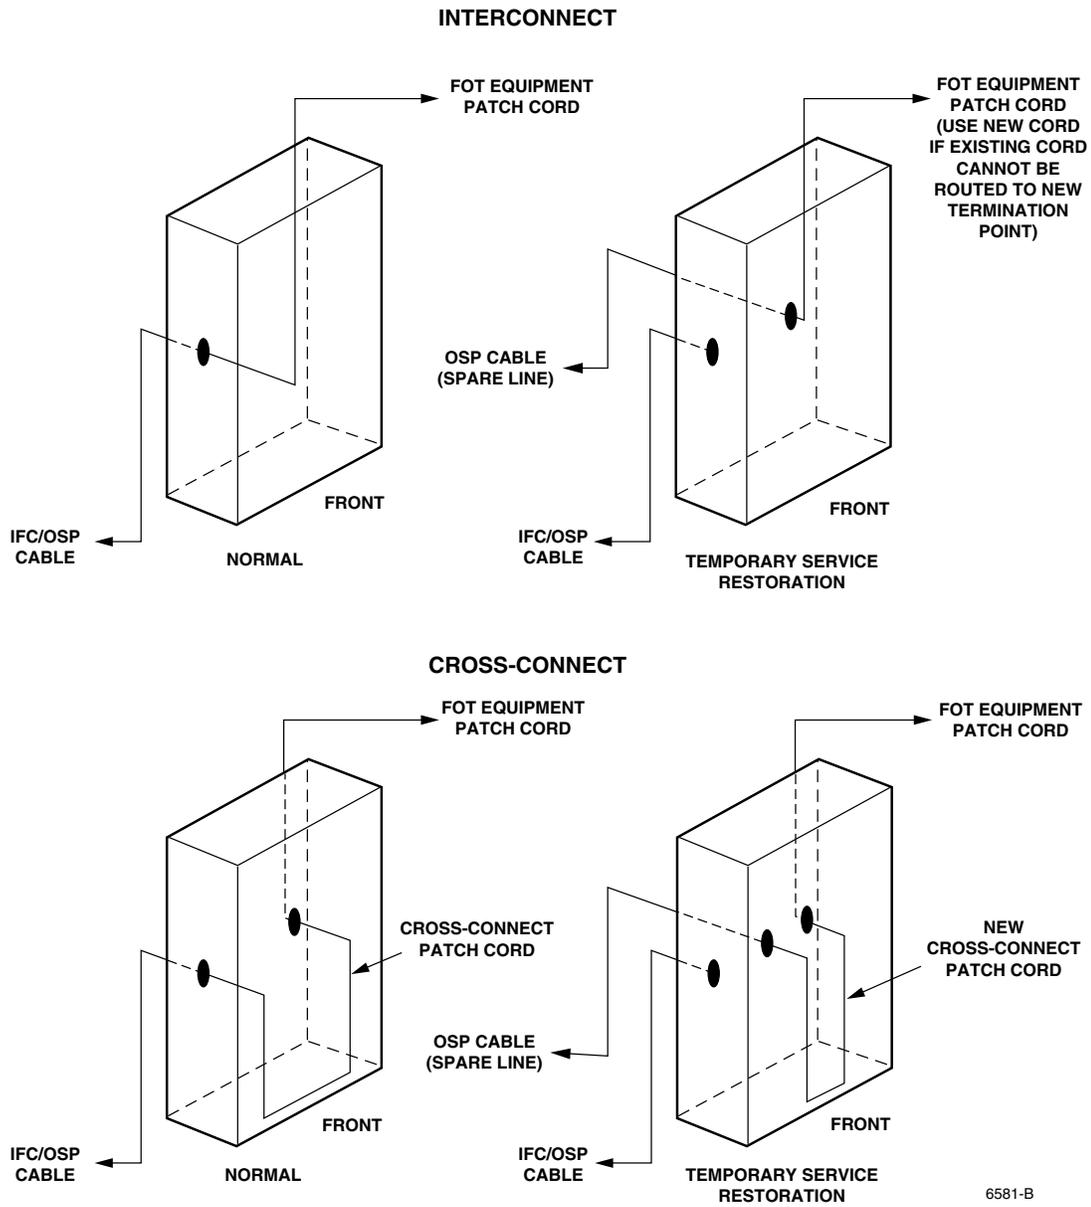

Figure 27. Temporary Service Restoral
This procedure is used to temporarily restore service after an IFC network cable has been cut or damaged. To perform this procedure, a spare network cable must be available. Separate procedures are provided for interconnect and cross-connect applications. Refer to Figure 27 for a schematic diagram of this procedure.
1. Locate the adapter that serves as the termination point for the damaged network cable (see Figure 27).